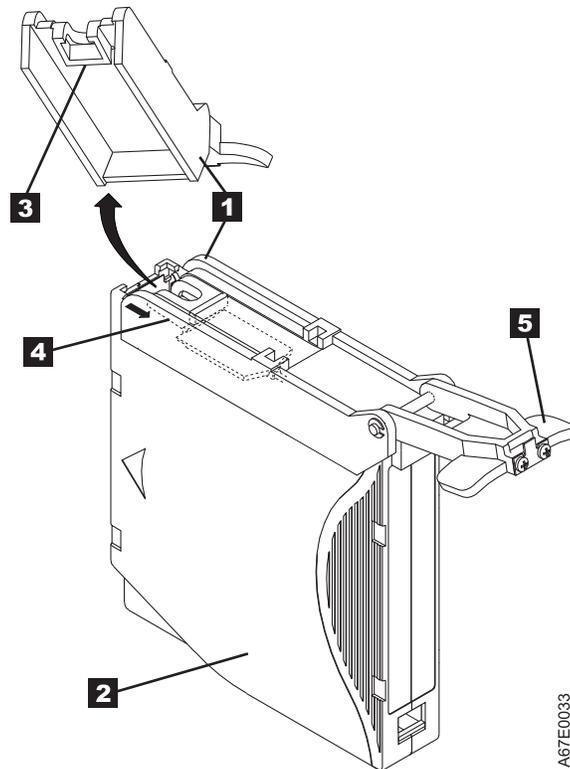

Figure 6-12. Attaching the leader pin attach tool to the cartridge. To hold the cartridge door open, hook the tool into the door and pull the tool back.
1. Attach the leader pin attach tool (**1** in Figure 6-12 on page 6-15) to the cartridge **2** so that the tool's hook **3** latches into the cartridge's door **4** . Pull the tool back to hold the door open, then slide the tool onto the cartridge. Open the tool's pivot arm **5** .